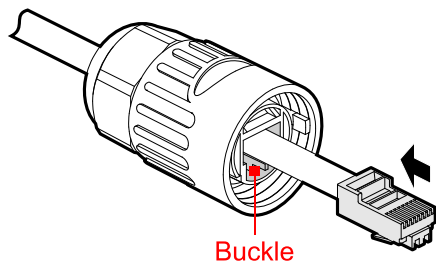

Figure3-31 Buckle position
Step 2 After crimping, insert the RJ45 plug into the buckle (as shown in Figure3-31), and then fasten the lock nut.